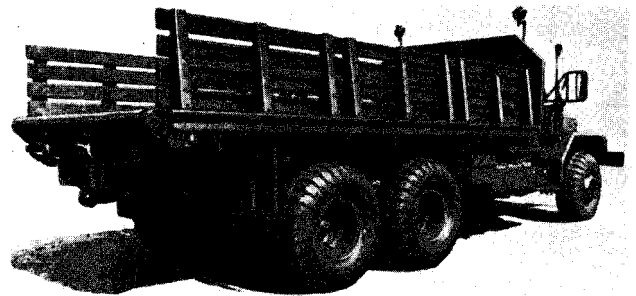

Figure 2-11. Truck, stake, bridge, transporting, 5-ton, 6x6, M821.
k. *Truck, Stake, Bridge, Transporting, M821* (Fig 2-11). This truck has a 215-inch wheel base, with a specifically designed stake body for transporting bridge building equipment.